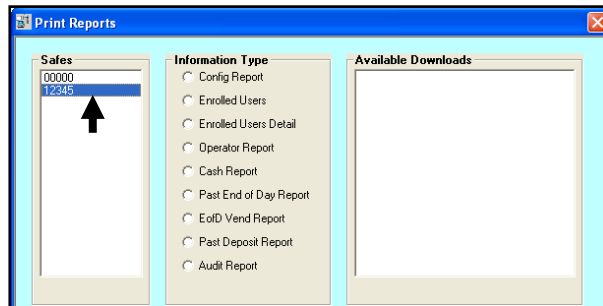

Fig. 9.7
- 2) Select the safe system from the **Safes** field (Fig. 9.7)